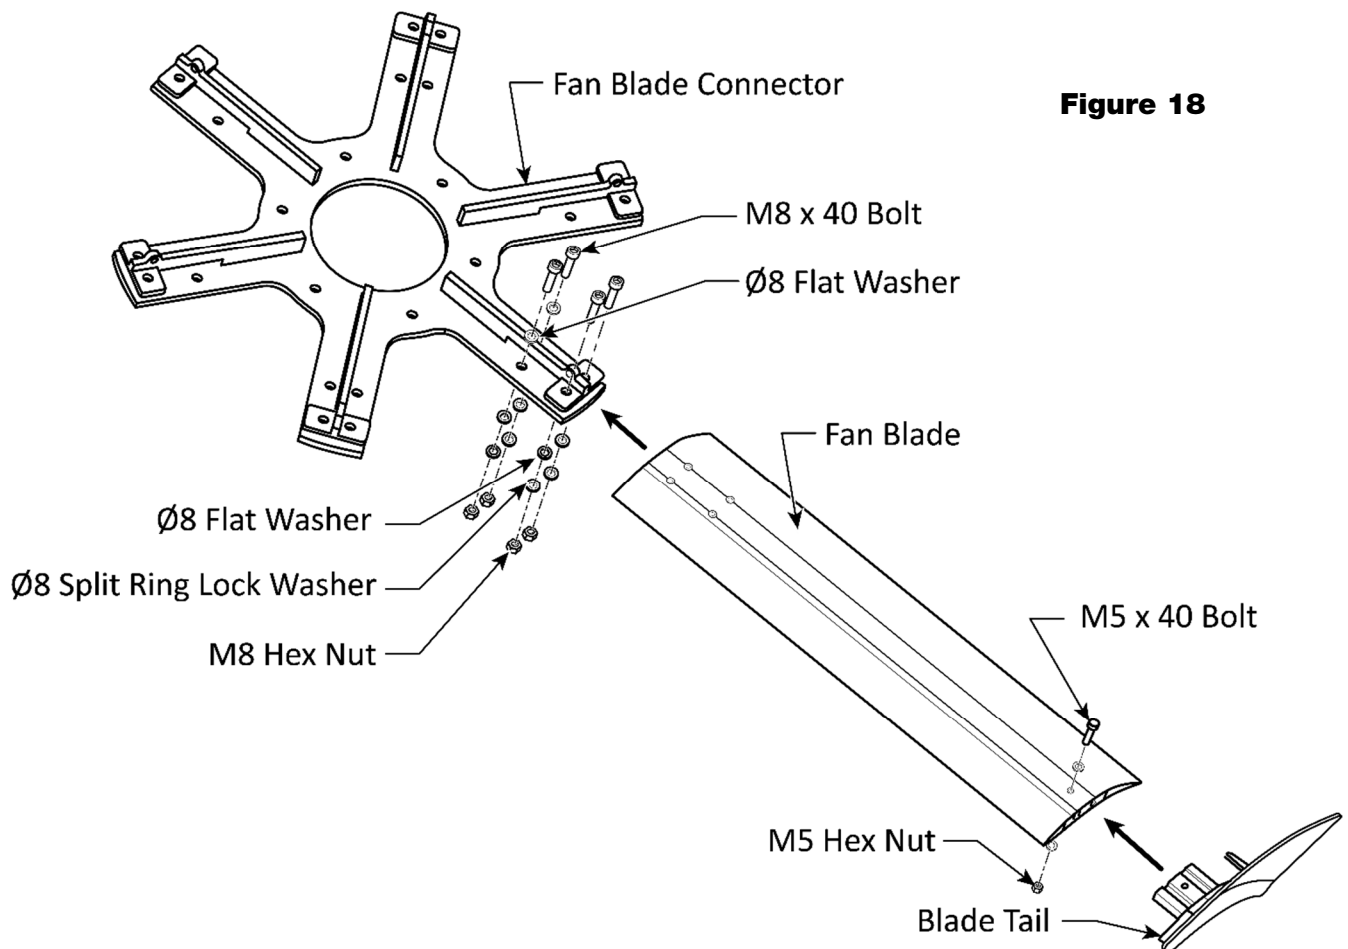

Figure 18
2. Attach the six Fan Blades to the Blade Connector using the fasteners as detailed in **figure 18** below. Take care not to damage the Blades during the installation.